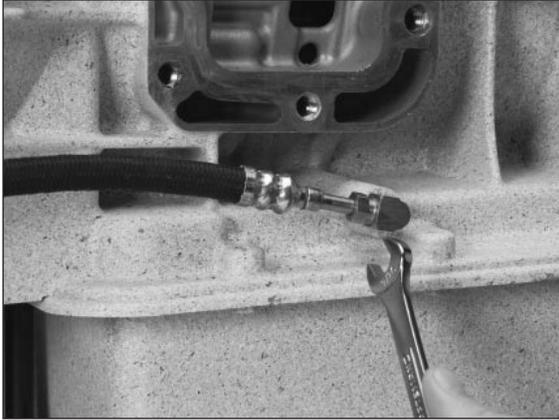

Figure 11
11. Connect hose 329232-1X (Transmission to Hydraulic Valve) to the fitting on the transmission. Route as shown in **Figure 11**. Hold hose fitting in desired position and tighten lock nut with a wrench until solid feeling is encountered. From that point, apply one-sixth turn.